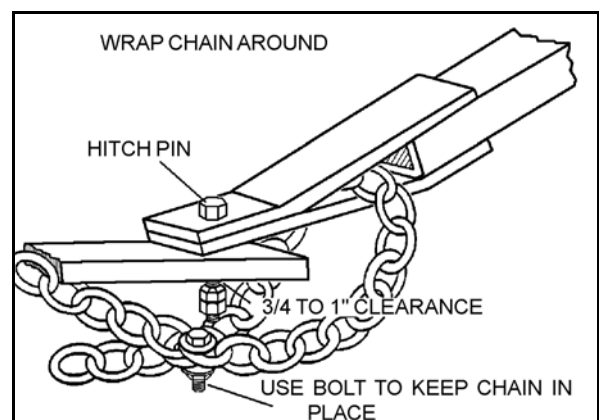

Figure 4.2
2. Position and secure hitch pin and safety chain. Place safety chain through clevis welded to auger hitch tube and bolt together before attaching to tractor. Refer to Figure 4.2.
**Important:** Use a type of hitch pin (see Figure 4.2) that will not allow the auger to separate from the towing vehicle.